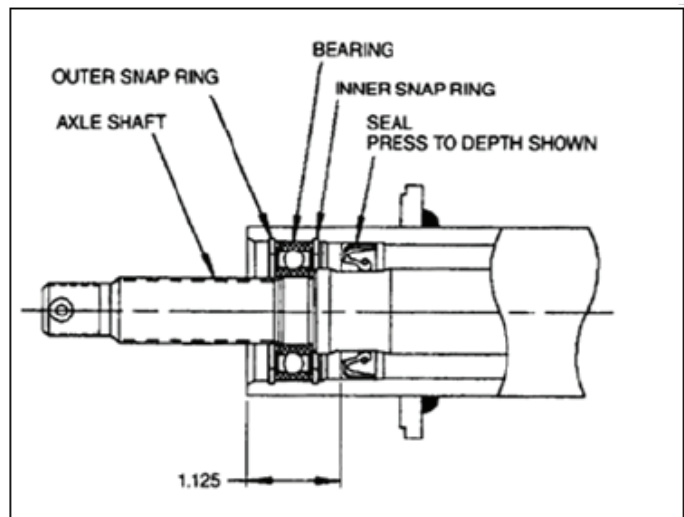

Figure 7-28. Axle Components
16. With properly sized seal driver, install shaft oil seals (24). Press seals to depth of 1.125" (28.5 m). See Figure 7-28.